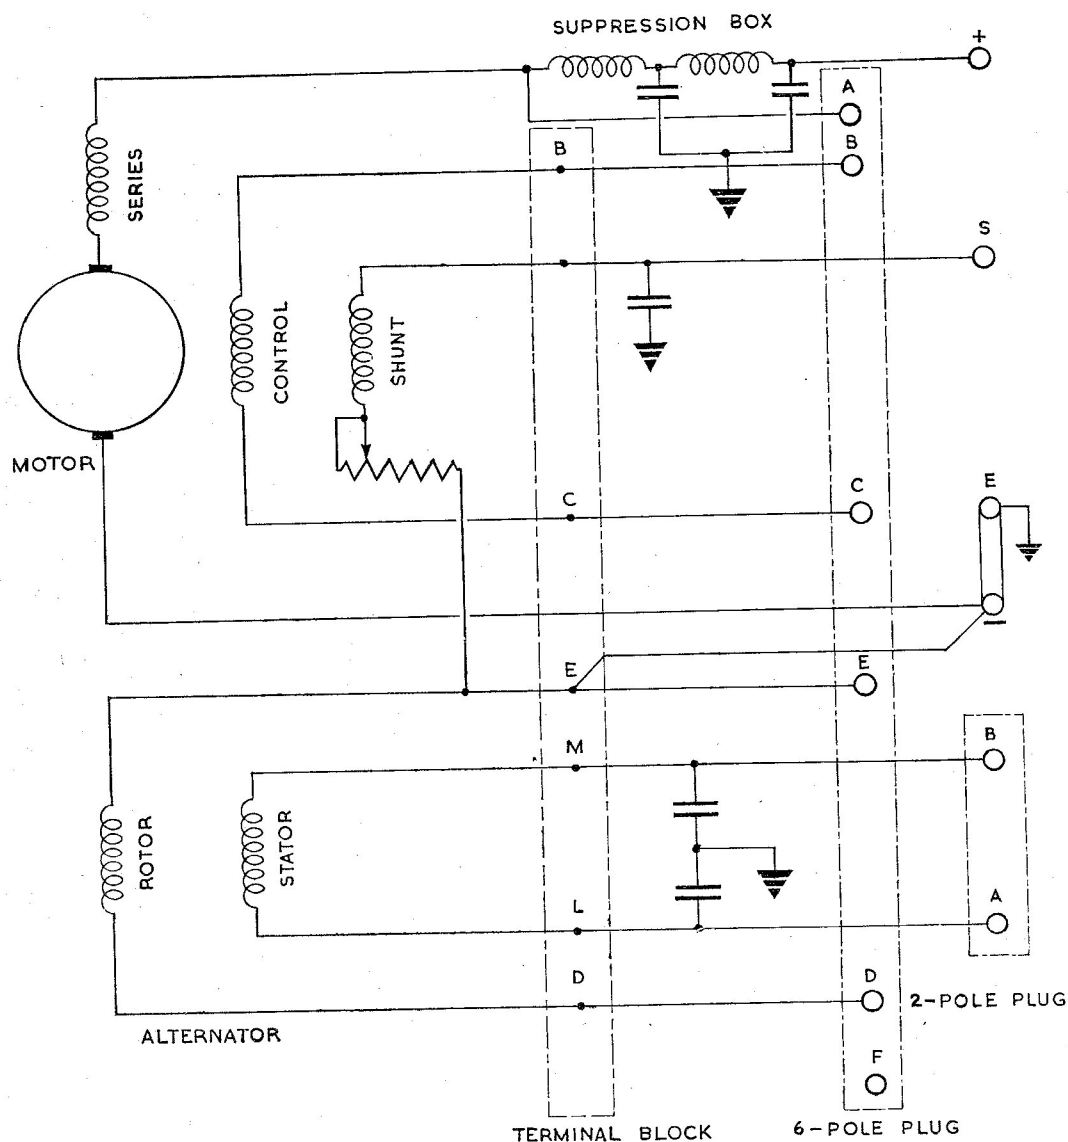

Fig. 1. Diagram of internal connections
1. The inverter, Type 108A (Rotax S3304) is generally similar in construction to that described in the main chapter, but has a separate shunt field input connection to give increased starting torque. The internal connections are shown in fig. 1. When used